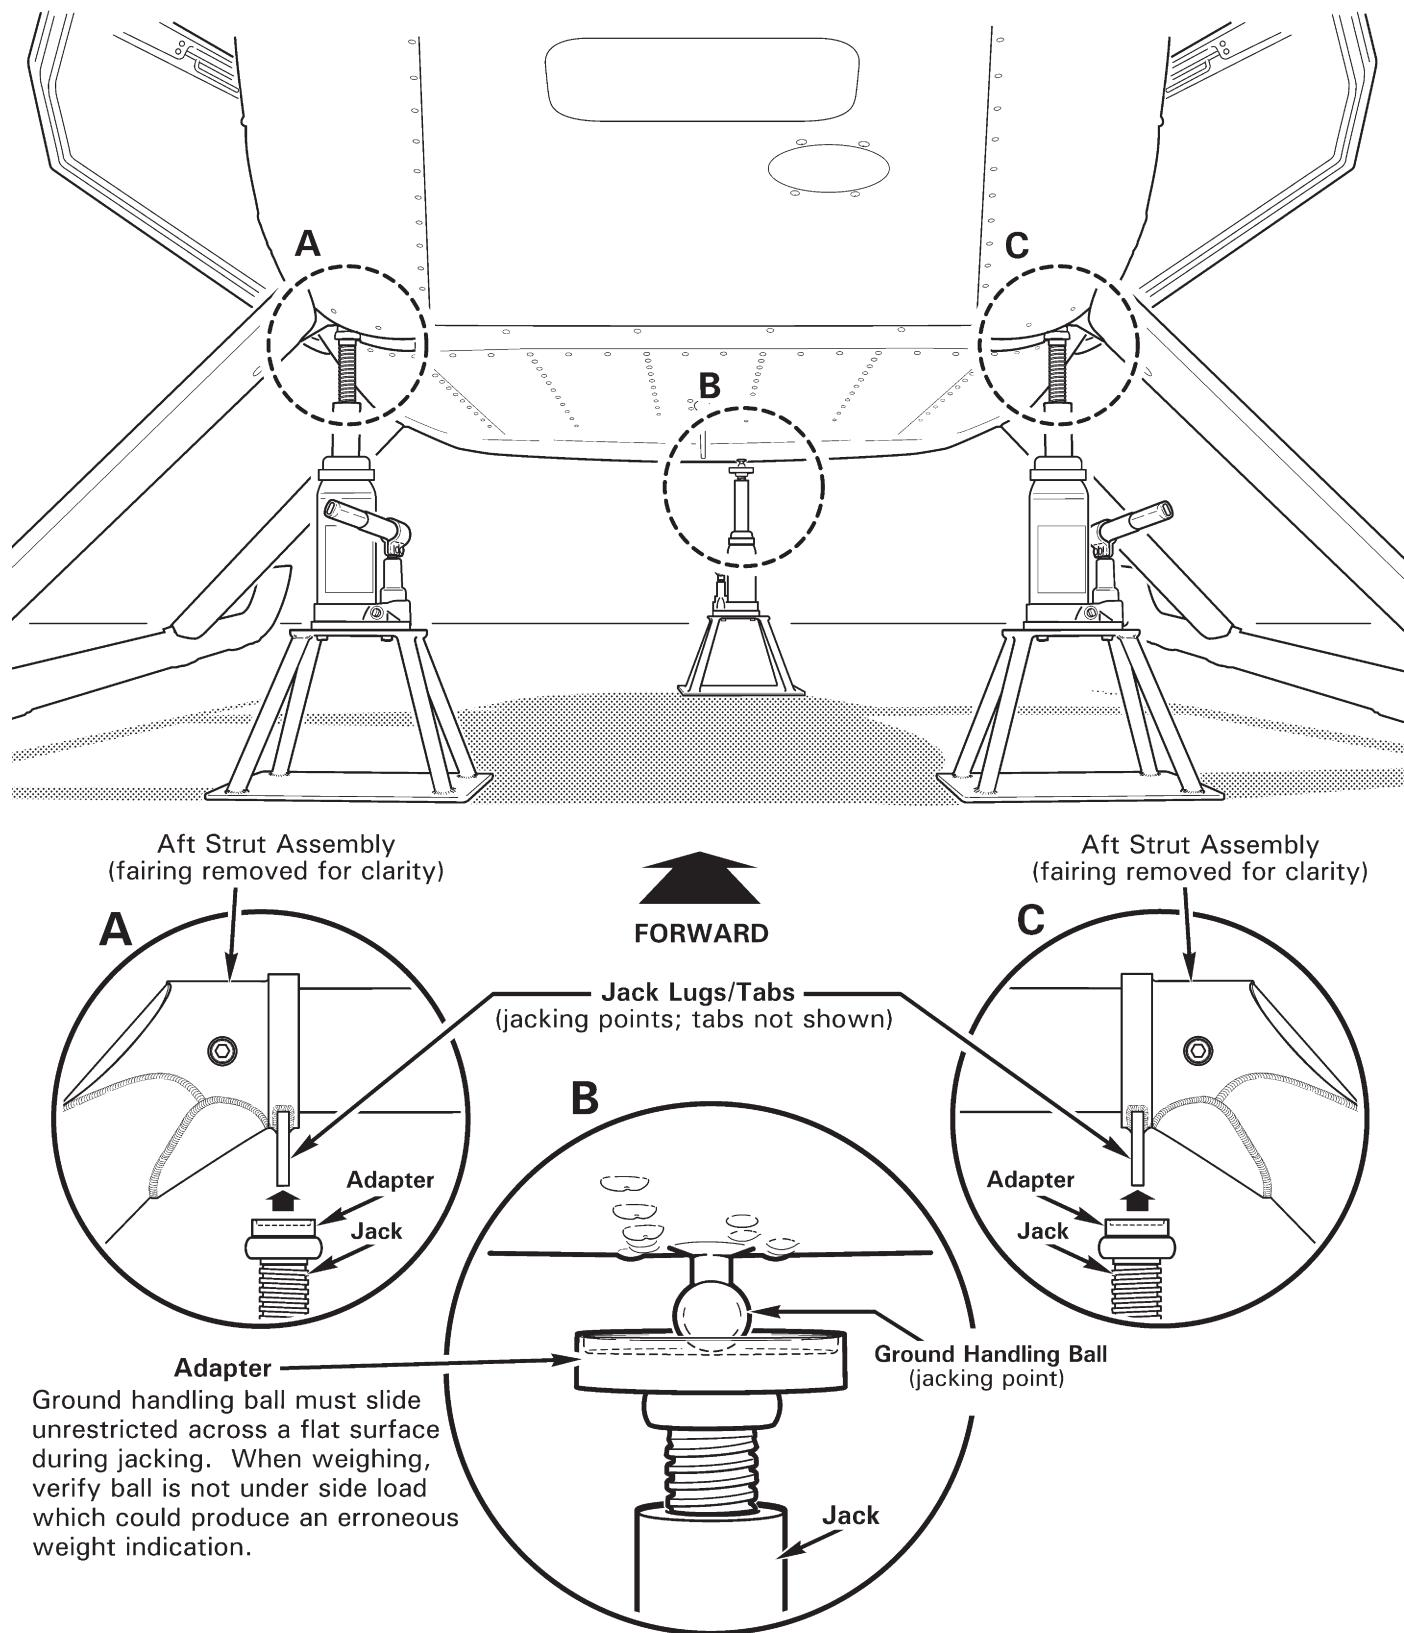

FIGURE 7-1 JACKING
1. Refer to Figure 7-1. Place one (appropriate capacity) jack under each (landing gear) aft strut assembly jack lug/tab and under the ground handling ball. Install jacking point adapters as required.
1. Refer to Figure 7-1. Slowly and simultaneously (one person per jack recommended) lower each jack ram, maintaining helicopter stability. Lower aircraft to ground.